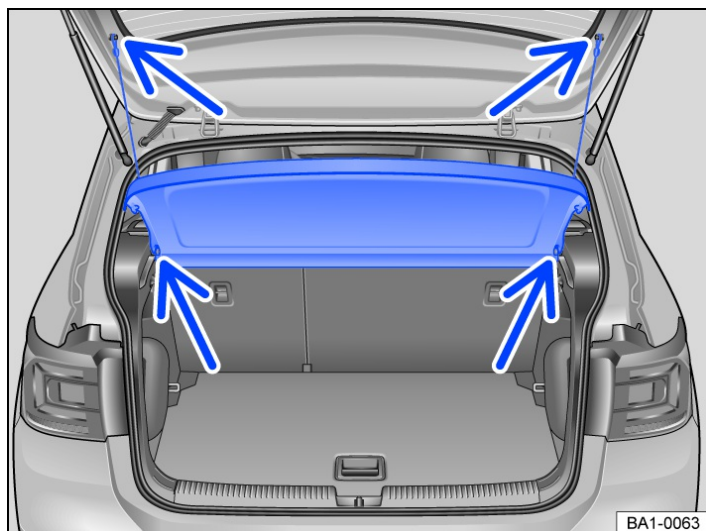

Fig. 1 In the luggage compartment: removing and installing the luggage compartment cover.
- Unhook the retaining straps from the boot lid → *Fig. 1* (upper arrows).